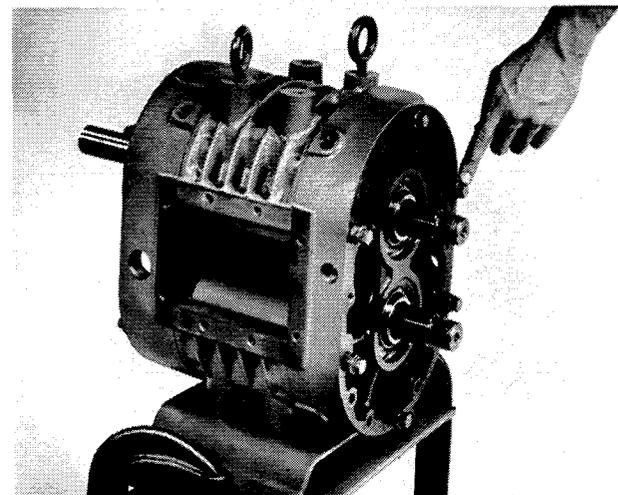

FIGURE 22
- k. Brush the bearing sleeves on the gear ends of both rotors with assembly lubricant. Install gear end plate using care to avoid damage to the seal rings during assembly. Secure end plate to housings using six cap screws with 1/2-13 nut spacers (see Fig. 22). Torque screws to approximately 30 ft-lb [3.9 mkg].